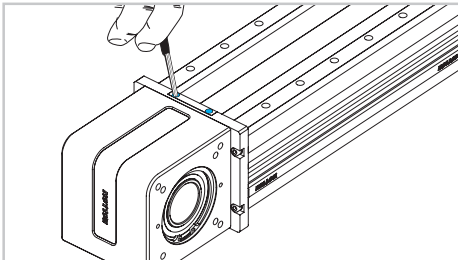

Fig. 5
- 4) Free the belt from the drive head disassembling the lock plate (Fig. 5).